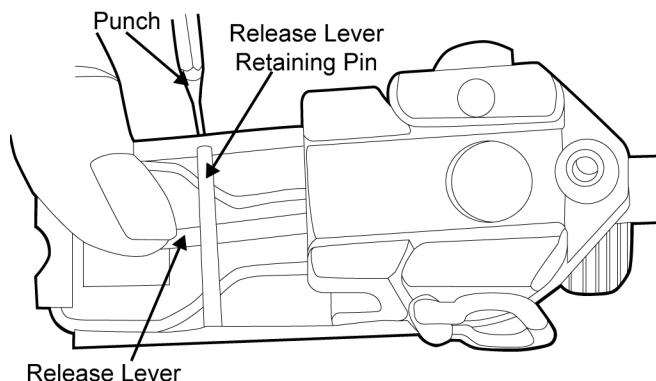

Figure 54. Installing the Release Lever Retaining Pin.
d. With a finger depressing the release lever to relieve spring tension, insert the release lever retaining pin through the hole in the side of the mounting plate, ensuring that it is over the release lever spring and flush on both sides of the mounting plate. It may be necessary to use a punch to seat the release lever retaining pin. Refer to Figure 54.